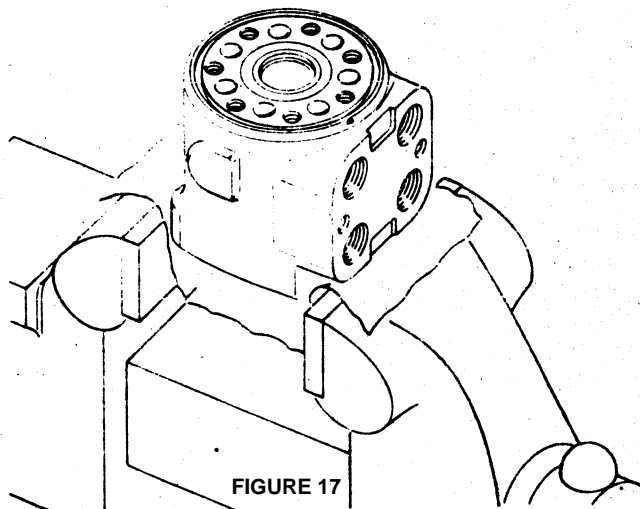

FIGURE 17
15. Clamp housing in vise, as shown in Fig. 17. Clamp lightly on edges of mounting area. Do not over tighten jaws.